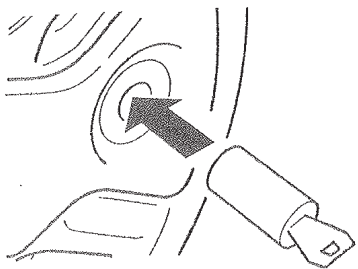

Fig.8
- Insert barrel lock. **(Fig 8)**